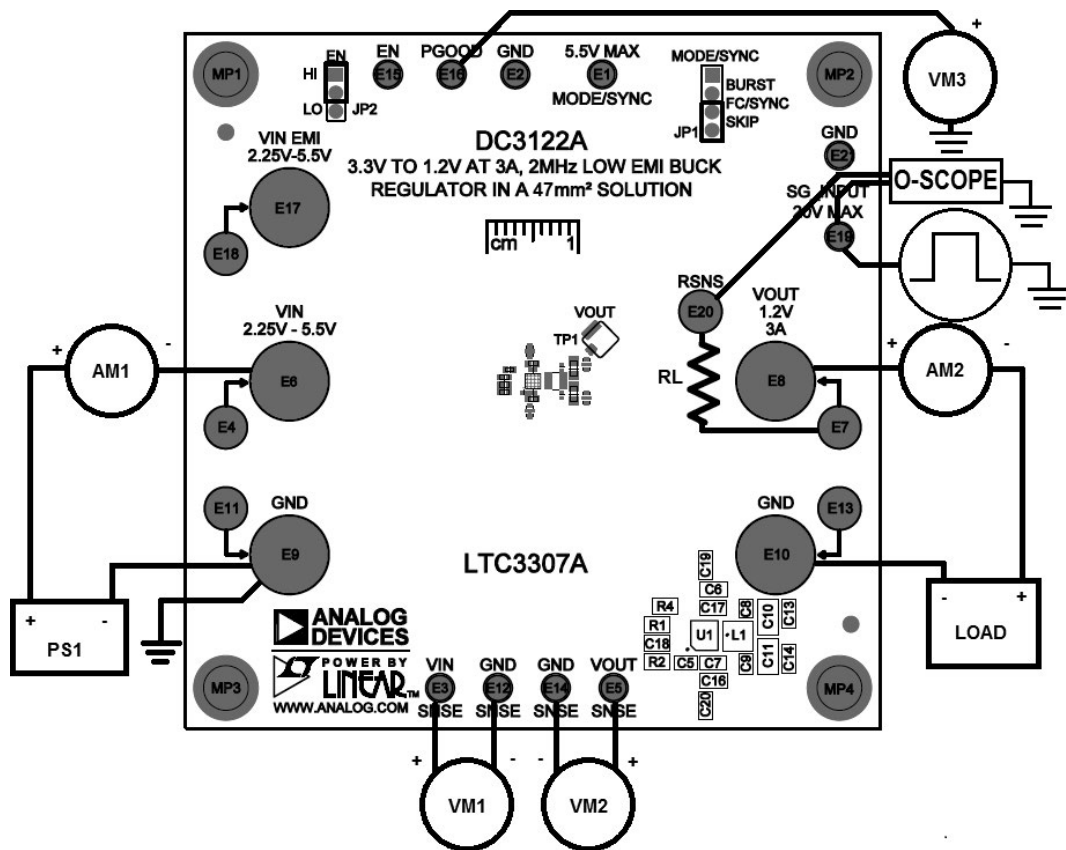

Figure 1. Test Setup for the DC3122A Demo Board
Demonstration circuit 3122A is easy to set up and evaluate the performance of the LTC3307A. Refer to Figure 1 for proper measurement equipment setup and follow the procedure below.
NOTE: For accurate V_{IN} , V_{OUT} and efficiency measurements, measure V_{IN} at the V_{IN} SNSE and GND SNSE turrets and V_{OUT} at the V_{OUT} SNSE and GND SNSE turrets as illustrated as VM1 and VM2 in Figure 1. When measuring the input or output voltage ripple, care must be taken to avoid a long ground lead on the oscilloscope probe.
13. To test the transient response with a base load, add the desired resistor to produce a minimum load between V_{OUT} and RSNS turrets (R_L shown on Figure 1). Note that the total load resistance will be R_L plus R11 (100m Ω).